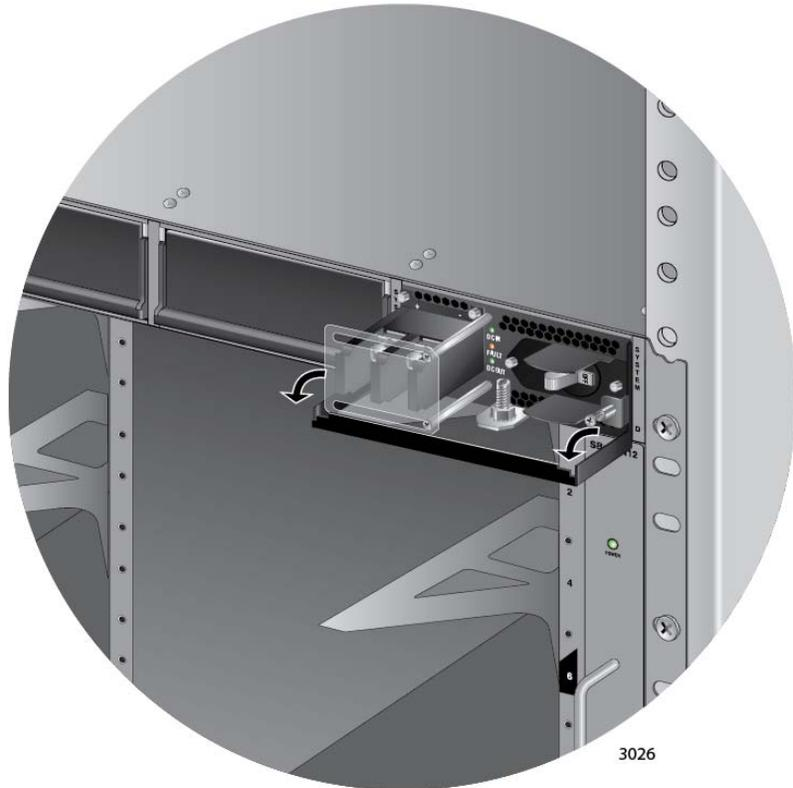

Figure 63. Locking the Handle on the AT-SBxPWRSYS1 DC System Power Supply
8. Lower the locking handle of the power supply module to secure the module in the slot, as shown in Figure 63.